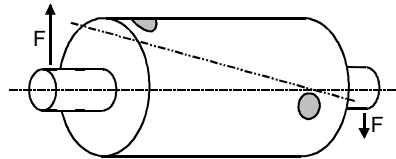

Figure 51: Dynamic balance
**Dynamic balance** occurs when the rotor axis and the mass axis are not congruent and when both axes intersect outside the center of mass. This case is also called two-plane unbalance. Dynamic balance is a combination of static and moment balance (Figure 51).